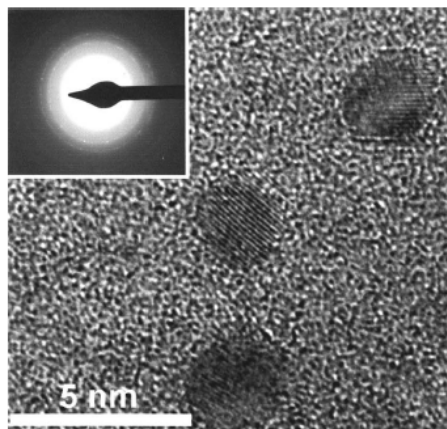

FIG. 3. (a) HRTEM image of crystalline Si QDs. The inset shows the ring patterns for the TED from crystalline Si QDs.
**Fig. 3** Size dependence of the nonmetallic gap for Pd nanocrystals. The insert shows the dependence of the charging energy on the reciprocal nanocrystal diameter [57].